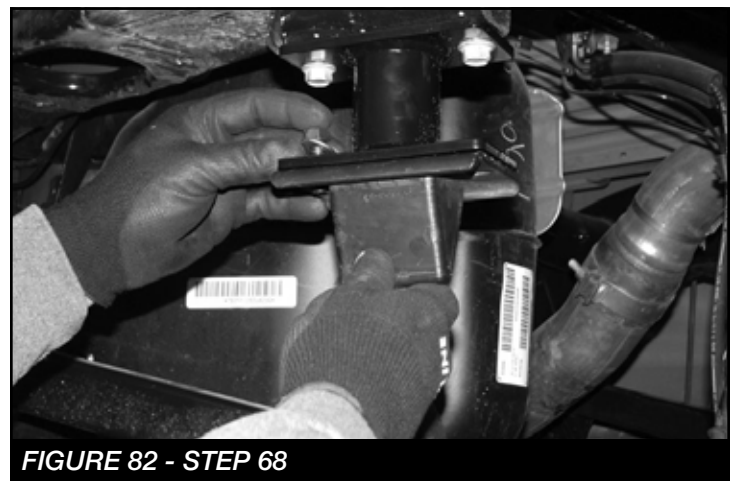

FIGURE 82 - STEP 68
68. Locate the FT44406BK rear bump stop spacer and supplied 7/16"-14x 1-1/4" bolts, nuts, and washers. Install the FT44406BK spacer with the factory bolts that were removed during disassembly. Then, install the factory bump stop onto the spacer bracket with the supplied 7/16" hardware. Torque to 58 ft-lbs. **SEE FIGURE 82**